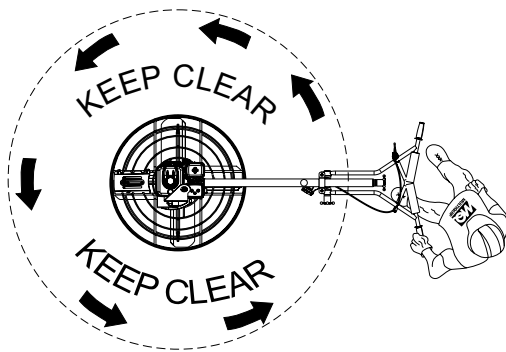

Figure 31. Testing Safety Stop Switch Runaway Situation
3. Stand behind the handle and spin the handle to the right, simulating a runaway situation. (See Figure 31). Centrifugal force should throw the safety switch outward to the "OFF" position thus shutting off the engine.